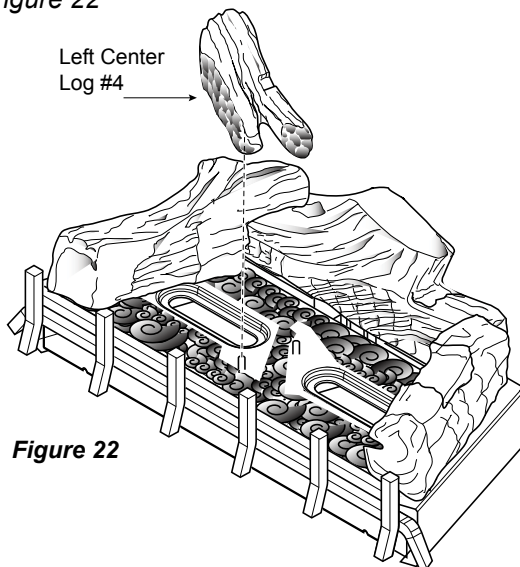

Figure 22
- Align hole in bottom left center log #4 with pin on burner. *Figure 22*